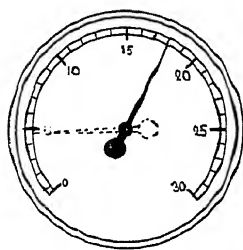

Fig. 15.—EXHAUST SYSTEM
5. Check Exhaust System (Fig. 15)